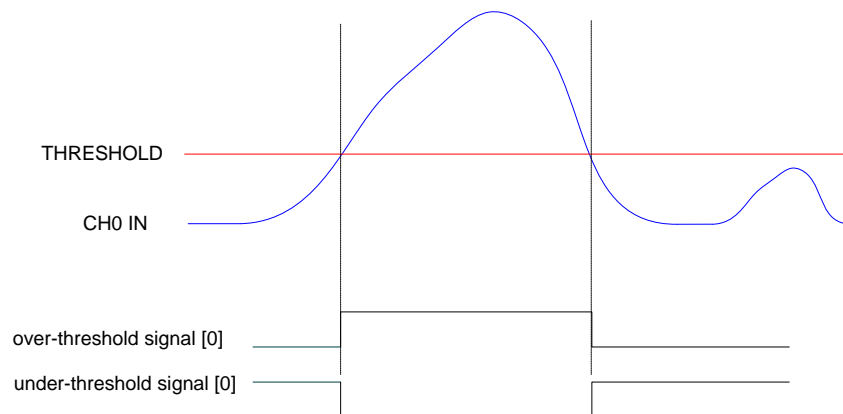

Fig. 8.11: Channel over/under threshold signal
- an *over/under-threshold signal* (see **Fig. 8.11**). This signal can be programmed to be active (i.e. "1") as long as the input pulse is over the threshold or under the threshold (depending on the trigger polarity bit at register address 0x8000).